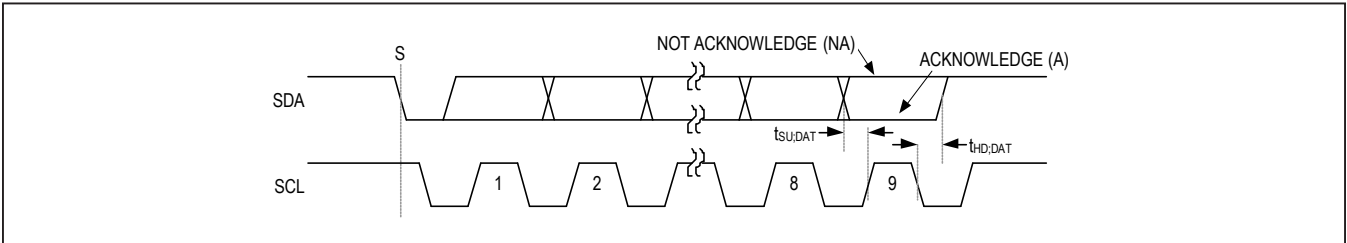

Figure 4. Acknowledge Bit
Both the I²C bus master and the MAX77756 (slave) generate acknowledge bits when receiving data. The acknowledge bit is the last bit of each nine bit data packet. To generate an acknowledge (A), the receiving device must pull SDA low before the rising edge of the acknowledge-related clock pulse (ninth pulse) and keep it low during the high period of the clock pulse. See Figure 4. To generate a not acknowledge (nA), the receiving device allows SDA to be pulled high before the rising edge of the acknowledge-related clock pulse and leaves it high during the high period of the clock pulse.